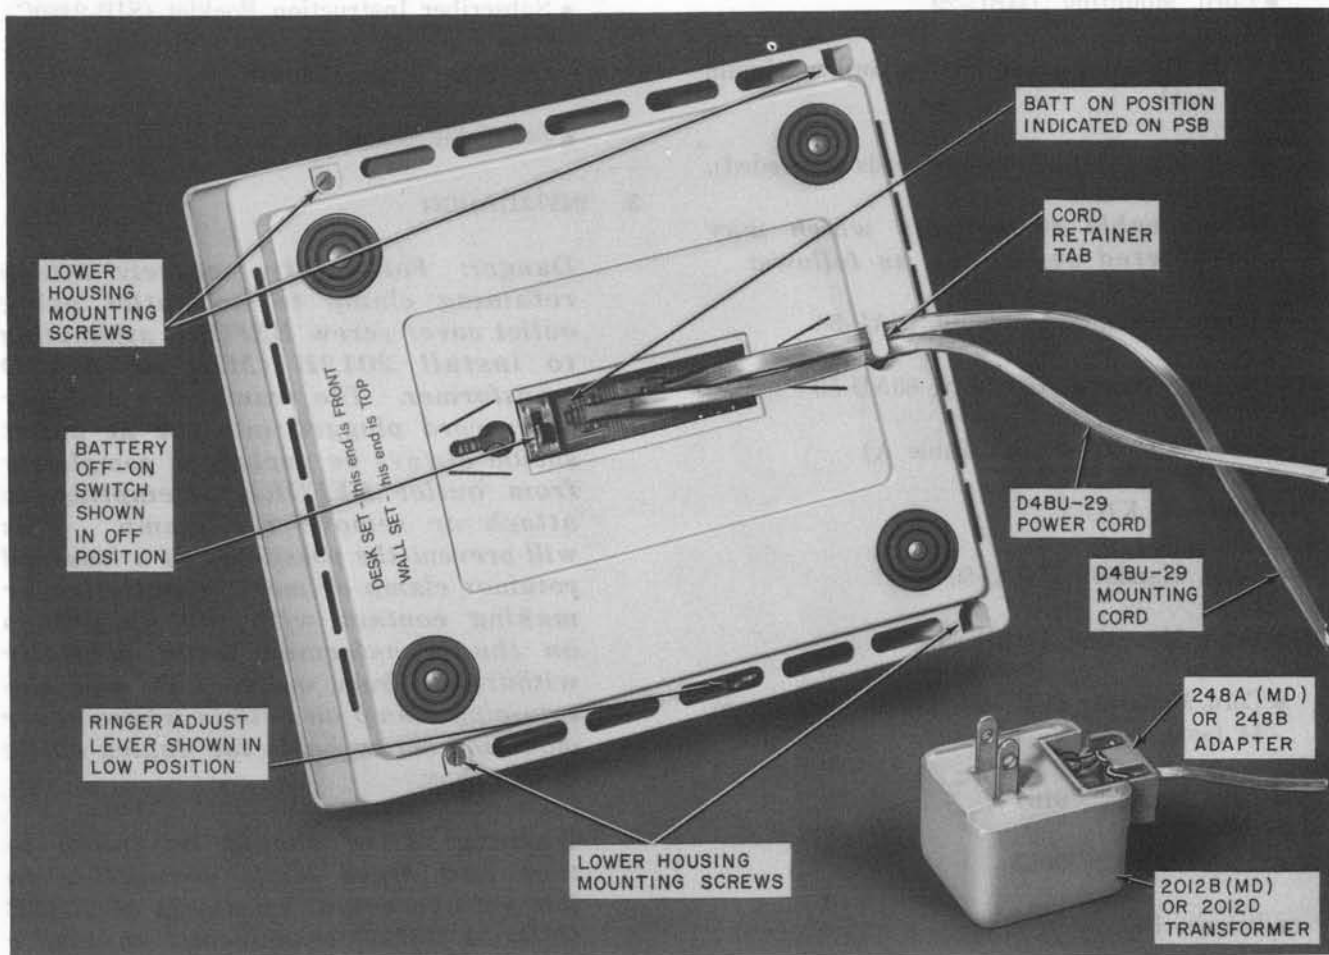

Fig. 2—960A01M Telephone Set, Bottom View
- Battery OFF-ON switch (located on the bottom of the set, Fig. 2), should be in the OFF position when set is not in service.
- (4) All components listed in (c) Replaceable Components except faceplate and D4BU-29 cords.
3.04 Attach 248A (MD) or 248B adapter to 2012B (MD) or 2012D transformer (Fig. 2) and plug into 110-117 volt ac outlet not controlled by a switch (continuous ac power is required). Plug one end of the D4BU-29 cord (maximum 14 feet) into the power jack on the bottom of the set (Fig. 15C) and the other end into the 248A or 248B adapter attached to the transformer.
3.06 The set is shipped from the factory with the battery switch in the OFF position. After all wiring changes and modifications have been completed, tilt the set up and move the battery switch arm (visible in the bottom view of the set, Fig. 2) to the ON position.
Note: The switch ON position is indicated on the bottom of the printed wiring board (Fig. 2), and if switch is not placed in ON position, the set will not record or automatically dial.
Note: Dress all cords under retainer tab at bottom rear of housing, Fig. 2.